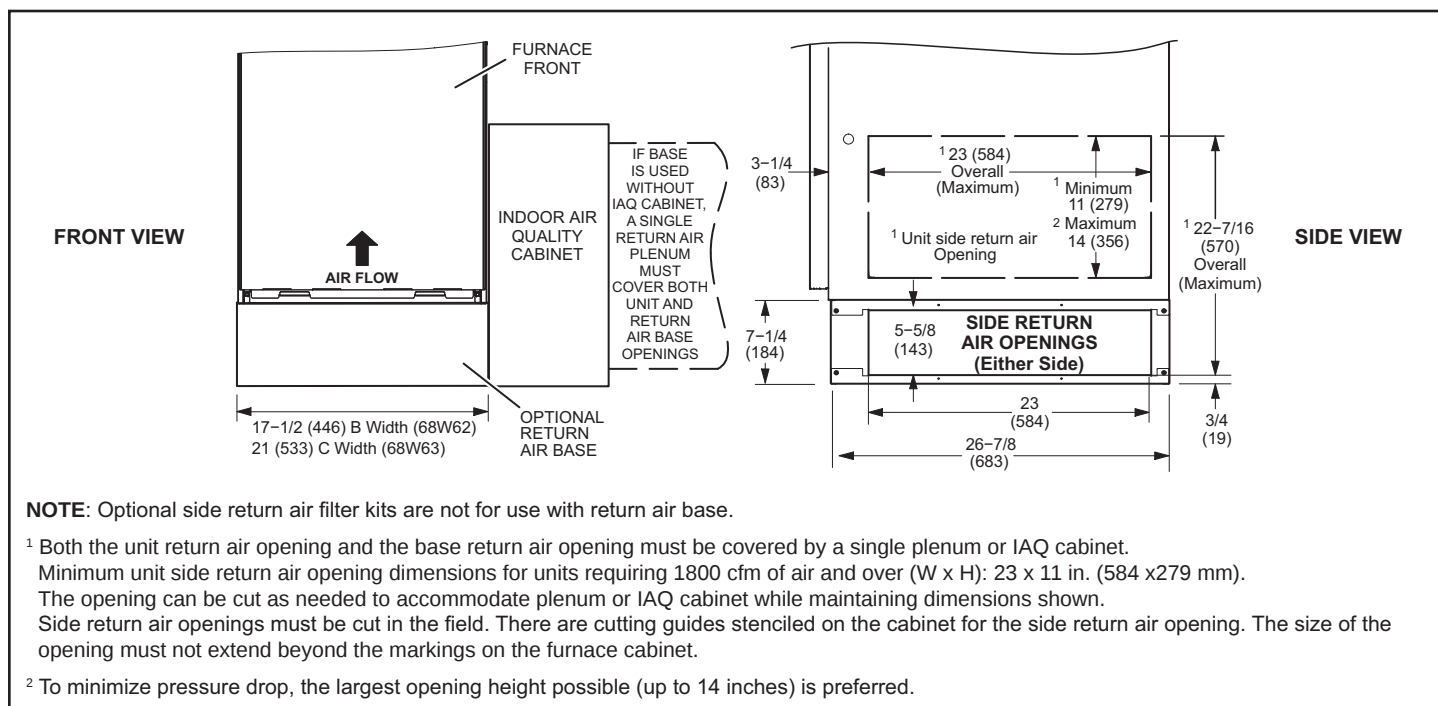

Figure 9. Optional Return Air Base (Upflow Applications Only)
2. Single side return air with optional return airbase. See Figure 9.